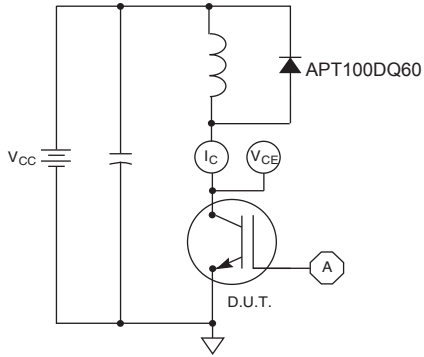

Figure 21, Inductive Switching Test Circuit
① Repetitive Rating: Pulse width limited by maximum junction temperature.
② For Combi devices, I_{ces} includes both IGBT and FRED leakages
③ See MIL-STD-750 Method 3471.
④ E_{on1} is the clamped inductive turn-on energy of the IGBT only, without the effect of a commutating diode reverse recovery current adding to the IGBT turn-on loss. Tested in inductive switching test circuit shown in figure 21, but with a Silicon Carbide diode.
⑤ E_{on2} is the clamped inductive turn-on energy that includes a commutating diode reverse recovery current in the IGBT turn-on switching loss. (See Figures 21, 22.)
⑥ E_{off} is the clamped inductive turn-off energy measured in accordance with JEDEC standard JESD24-1. (See Figures 21, 23.)
⑦ R_G is external gate resistance not including gate driver impedance.